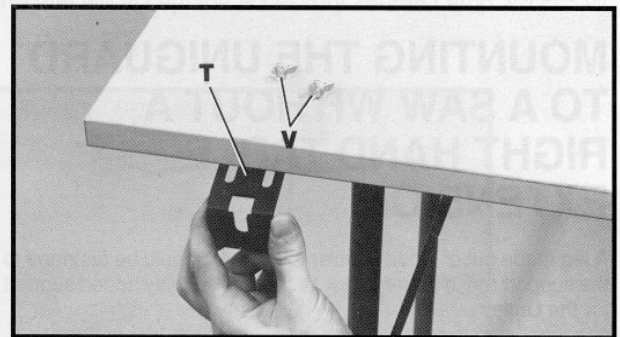
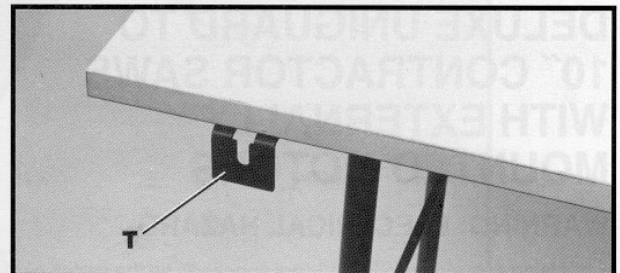

Fig. 6
Fig. 7
2. Assemble support bracket (T) Fig. 6, at the locations of holes drilled in **STEP 1** with two 3/4 inch-long washer-head screws (V). **NOTE:** Do not overtighten screws in particle board. Fig. 7 illustrates support bracket (T) assembled to the underside of the table.